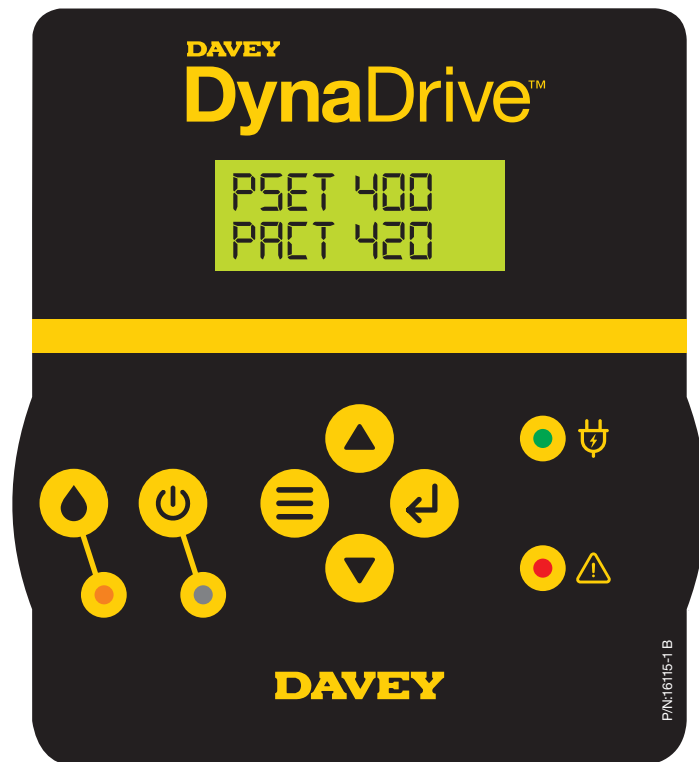

Figure 6.6
- Press and hold the  **Prime button**. The pump will turn on and continue to run until the  **Prime button** is released, see figure 6.6;
While the pump is in manual override the  **Prime LED** will illuminate orange, see figure 6.6.